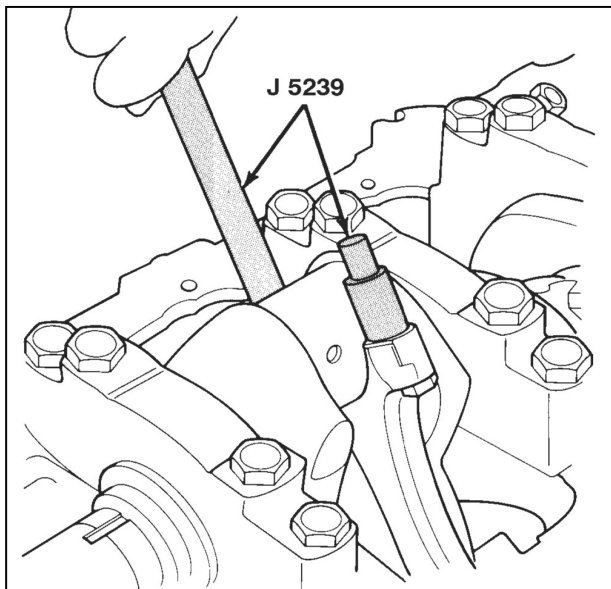
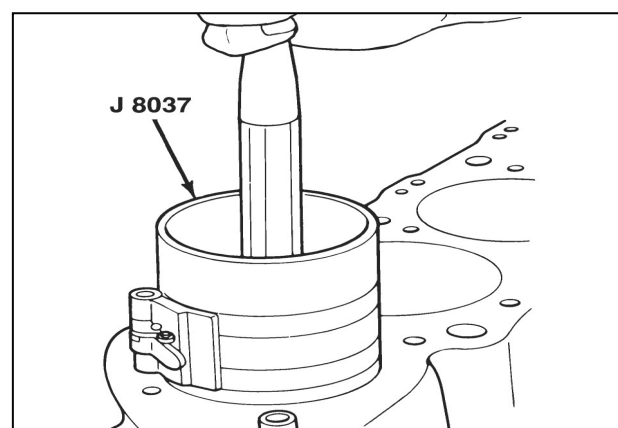

Figure 12-69 Guiding Connecting Rod
Figure 12-71 Installing Piston
Figures 12-69 and 12-70
- A. With the connecting rod cap removed, install J 5239 onto the connecting rod bolts (figure 12-69).
- E. Place the piston in its matching bore. The connecting rod bearing tang slots must be on the side opposite the camshaft. Using light taps with a hammer handle, tap the piston down into its bore (figure 12-71). Guide the connecting rod to the crankpin with J 5239 (figure 12-69). Hold the ring compressor against the block until all rings have entered the cylinder bore.